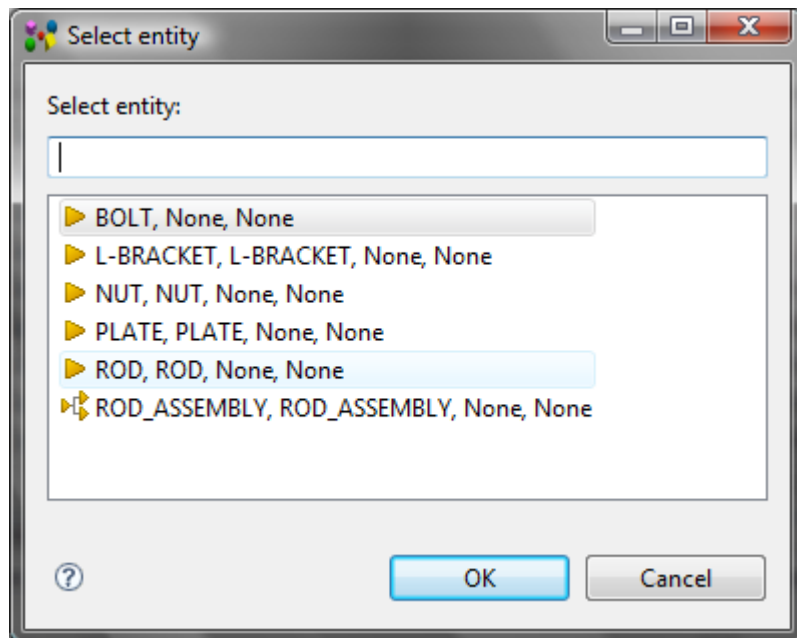

Figure 2. Select entity page with a list of available definitions
- The **Select entity** page appears on the screen (see Figure 2) to select an applicable definition to be associated with the selected assembly component.